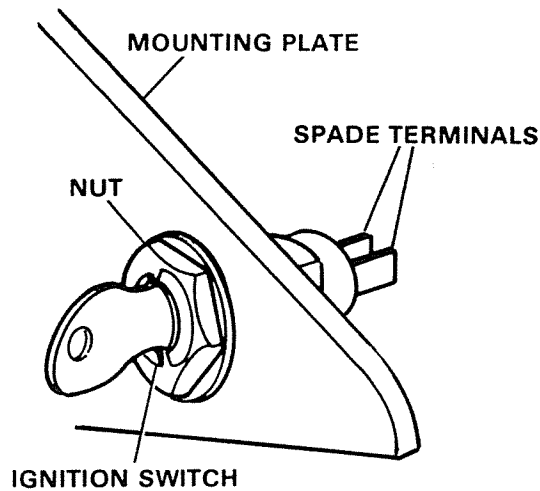

Figure 8. Removing or Installing Ignition Switch.
1. Remove wires from spade terminals at rear of switch. Figure 8.
2. Remove nut securing switch to mounting plate. Figure 8.